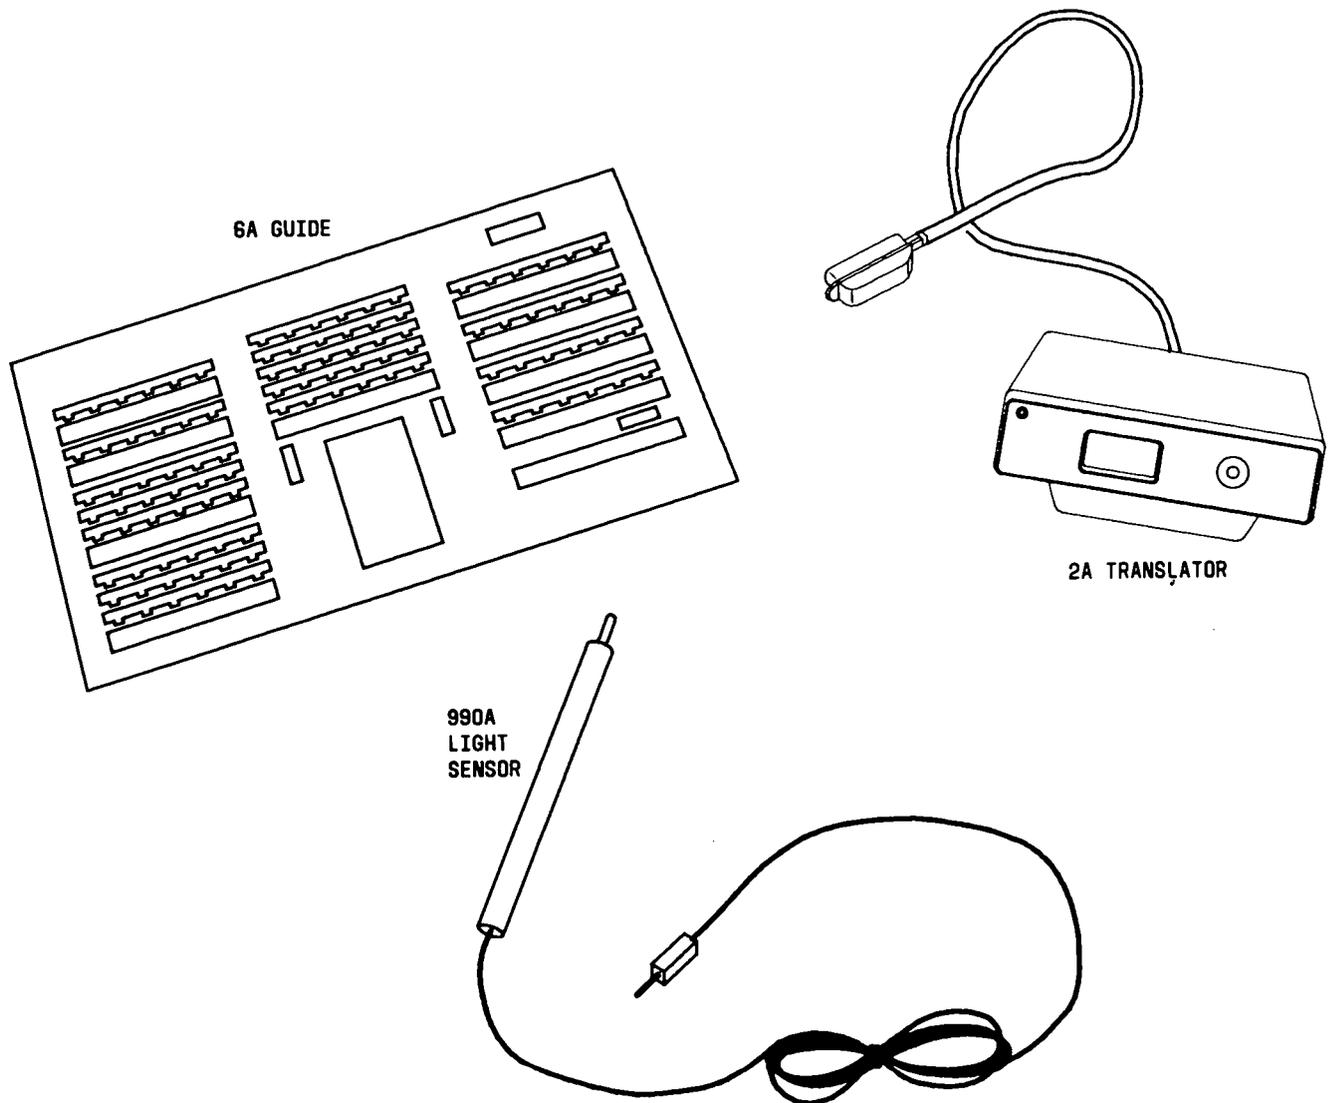

Fig. 5—Visually Impaired Attendant Service—Console Equipment
**3.187** Visually impaired attendant service capability is achieved by supplementing the normal visual signals provided on a standard attendant position with special tactile devices and/or audible signals which enable a visually impaired person to operate the position (Fig. 5). The DIMENSION PBX consoles allow plugging an audible tone adjunct directly into the console. The audible signals identify the type of incoming call, and tones indicate calls waiting and timed reminders.